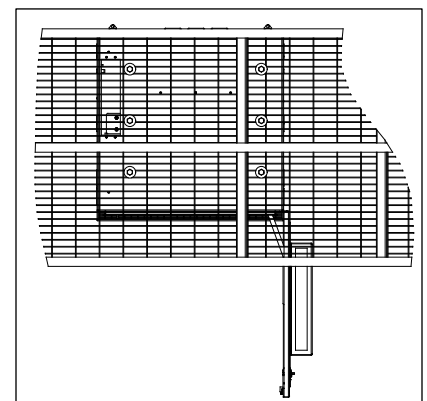

Figure 7 **Installing on a Platform**
9. To secure the CUBE to a steel grate platform, install 1/2” corrosion-resistant Grade 5 steel hardware through the cabinet and platform grate. Ensure that the bolts are long enough to extend past the nut on the bottom side of the platform grate. For all mounting applications, for each bolted joint, use a minimum Ø1 inch fender washer on the inside of the cabinet (and underside of the platform grate for platform mounting) with a lock washer. The washer on the underside of the platform must be large enough to cover both adjacent bearing bars as shown in Figure 7.